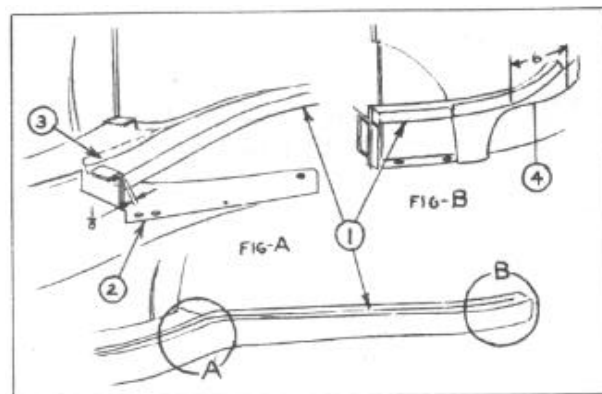

FIGURE 109
3. Install rear fender seal flush with frame flange, raising the front end 1/8" to interfere with rocker panel filler, Figure 109, No. 1 and No. 2. Cement seal tightly and allow approximately 6" from the end of the seal to remain loose until the fender is completely installed, No. 4, Figure 109. Then cement seal securely to frame flange, No. 3, and fender. **TIGHTEN ALL ATTACHING BOLTS AND SCREWS SECURELY.**